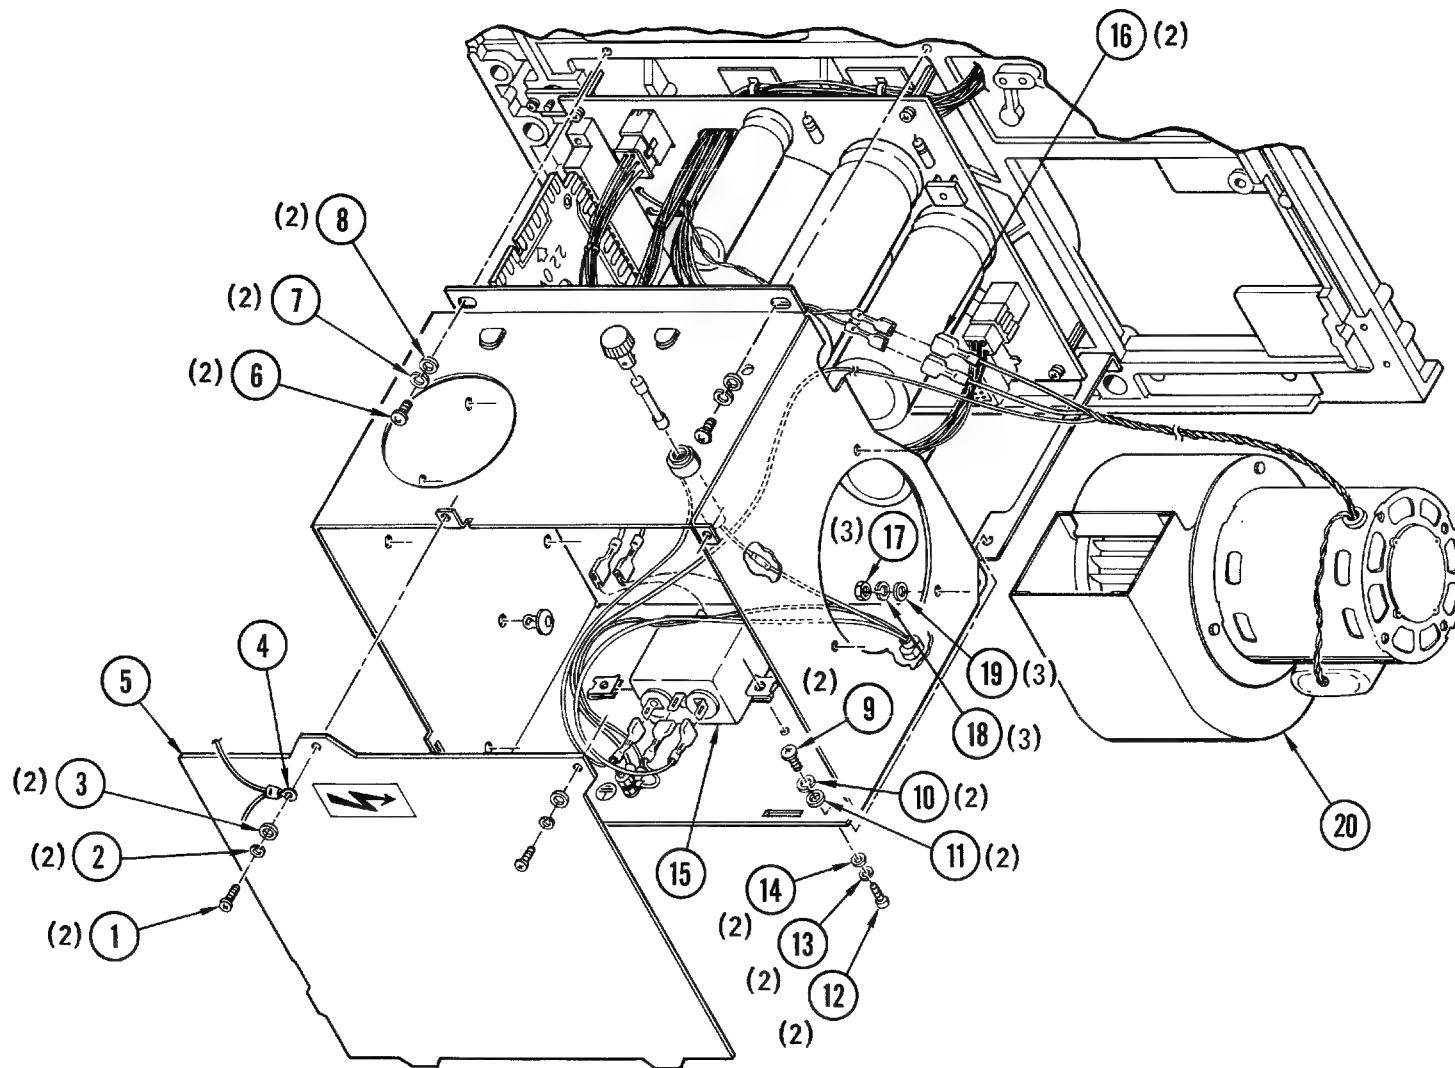

Figure 4-24. Power Supply Assembly
4-38. Removal and Replacement (Figure 4-24). Place the drive in service access position (paragraph 4-3) and proceed as follows:
- c. Remove screw (1, Figure 4-24), lockwasher (2), and flatwashers (3) securing ground wire terminal (4), and power supply cover (5).
- e. Remove screws (6), lockwashers (7), and flatwashers (8) securing power supply chassis to top plate.
- f. Remove screws (9), lockwashers (10), and flatwashers (11) securing chassis to rear bracket.
- g. Disconnect air pump wires (16) and terminals from EMI filter (15) noting position from which removed.
- h. If air pump assembly (20) is to be replaced, remove nuts (17), lockwashers (18), and flatwashers (19) securing air pump to chassis.